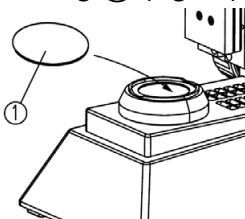

Fig. 18 Filter
Filter can make the background of the image more suitable for observation, depending on the specimen. There are blue, green, yellow and neutral filters available. Select the proper filter for your specific application. Place the filter on top of the light housing ① (Fig. 18)